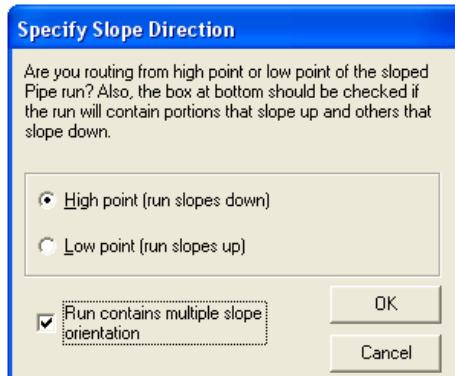

Figure 23: Specify Slope Direction Dialog Box
37. The **Specify Slope Direction** dialog box appears. You need to route a pipe that slopes downwards. So, select the **High point (run slopes down)** option and the **Run contains multiple slope orientation** check box on the **Specify Slope Direction** dialog box, as shown in Figure 23.